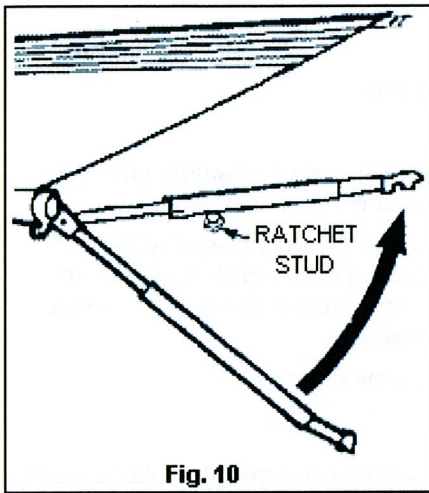
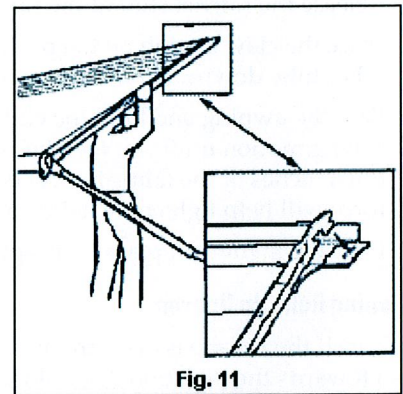

Fig. 10
Fig. 11
3. Release the rafter arm by pulling outward on the cap of the ratchet stud. Raise the arm upward toward the case (Fig. 10). Extend the arm and set the claw shaped end into the slot of the rafter lock (Fig. 11).
3. To prevent billowing, release and raise the rafter arm (Fig. 10) and hook the claw of the arm into the slot of the rafter lock (Fig. 14). This will require the awning to be extended approximately four and one half feet.